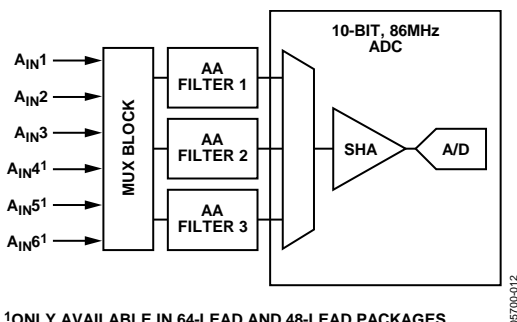
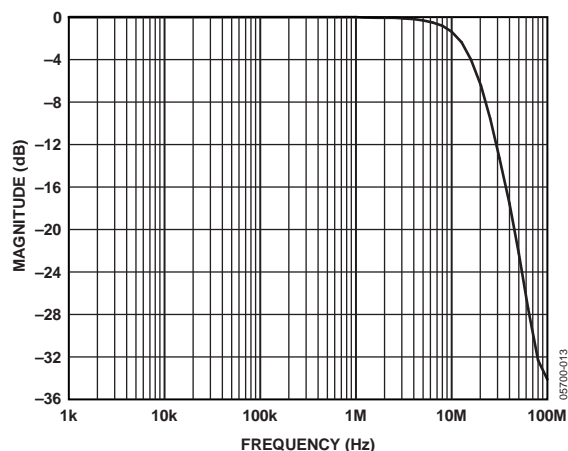
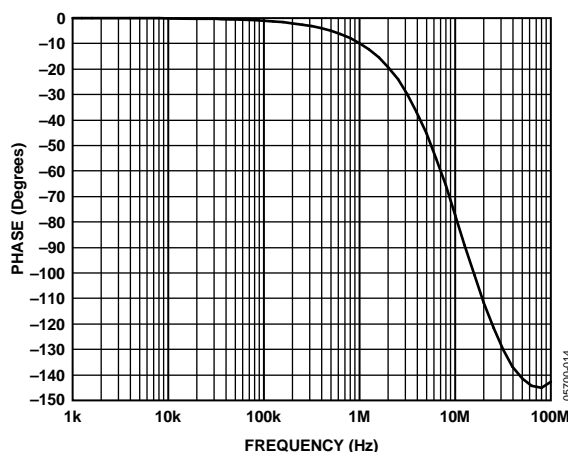

Figure 15. Antialias Filter Configuration
Figure 16. Antialiasing Filter Magnitude Response
Figure 17. Antialiasing Filter Phase Response
The ADV7180 has optional on-chip antialiasing (AA) filters on each of the three channels that are multiplexed to the ADC (see Figure 15). The filters are designed for standard definition video up to 10 MHz bandwidth. Figure 16 and Figure 17 show the filter magnitude and phase characteristics.